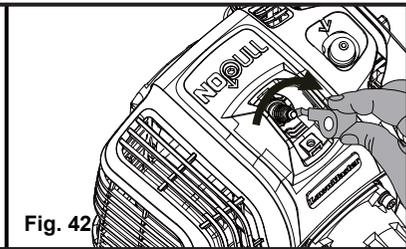

Fig. 42
- Reinstall the cleaned or a new spark plug by turning it clockwise into place (Fig. 42).